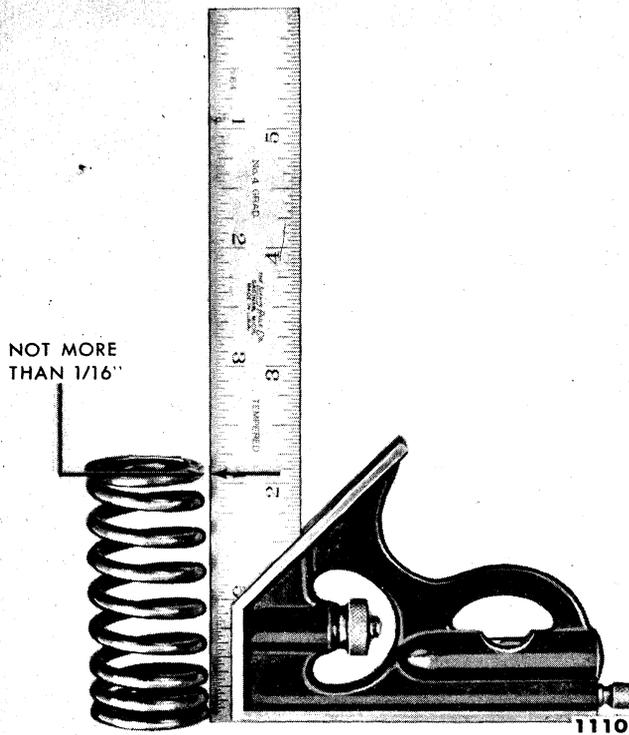

Figure 19—Checking Valve Spring Squareness
3. Discard valve springs that show evidence of rust. Check each valve spring for squareness as shown in Figure 19. Discard valve springs that are in excess of $\frac{1}{16}$ " of being square. Check the spring tension as shown in Figure 20. Each spring should exert a pressure of 54-62 lbs. when compressed to a length of 1.82" or 124-140 lbs.